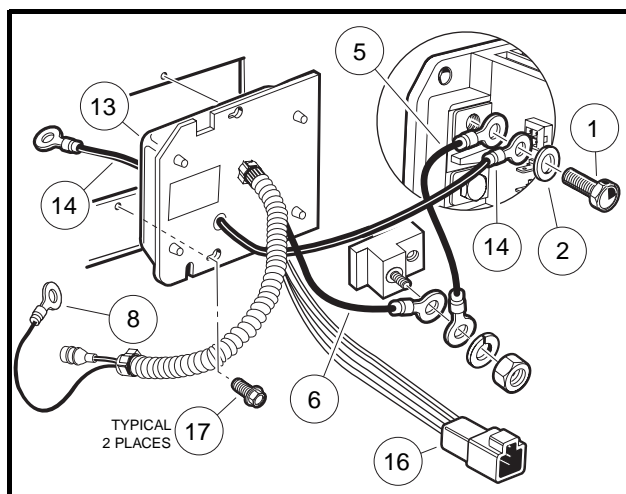
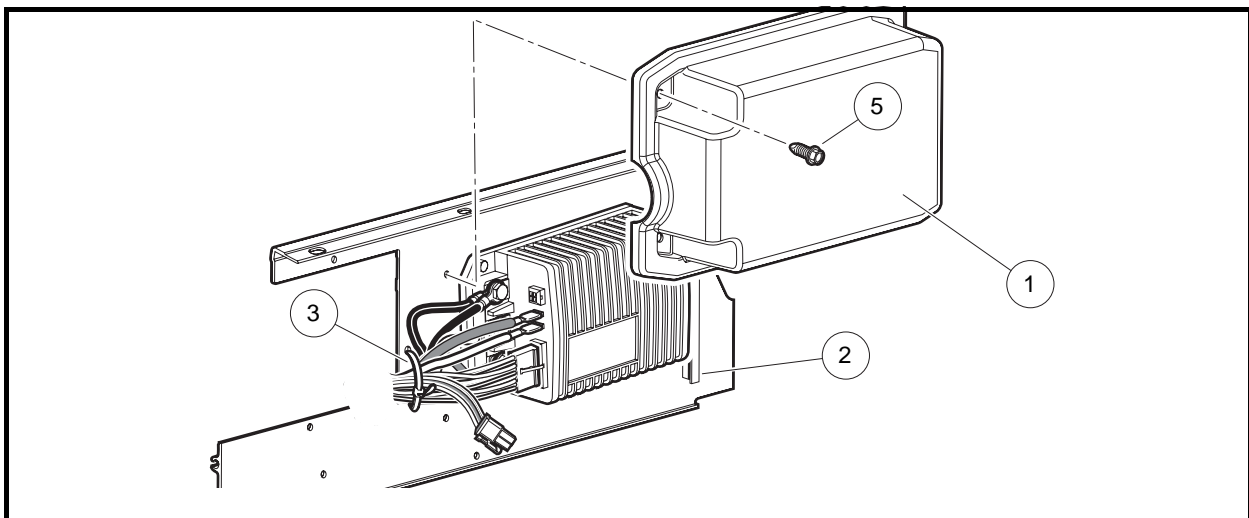

Figure 13-6 Onboard Computer
Figure 13-7 Speed Controller Cover
2. Remove rear body access panel and unplug the six-pin connector (16) at the OBC (**Figure 13-6, Page 13-8**).
3. Remove the two screws (5) from the speed controller cover (1) and remove the cover (**Figure 13-7, Page 13-9**).
4. Remove the wire tie (3) securing the speed controller wires to the mounting plate.
5. Remove black 6-gauge wire (14) and black 10-gauge wire (5) from the speed controller B- terminal (**Figure 13-6, Page 13-8**).
6. Remove the black 10-gauge wire (6) from the accessory mounting terminal.
8. Disconnect the black 10-gauge wire (8) at the charger receptacle.
10. Loosen, but do not remove, the two self-tapping screws (17) holding OBC to component mounting plate.
11. Slide OBC towards outside of vehicle and align heads of self-tapping screws (17) with the two holes in the OBC face plate. Pull OBC towards rear of vehicle and remove from component mounting plate.
3. Install the OBC onto the component mounting plate by aligning the two holes on the OBC face plate with two holes on component mounting plate. Slide OBC towards inside of vehicle and align heads of self-tapping screws (17) with smaller part of two holes in OBC face plate (**Figure 13-6, Page 13-8**). Tighten screws to 60 in-lb (6.7 N-m). **See following NOTE.**
5. Connect the black 10-gauge wire (8) to the charger receptacle (**Figure 13-6, Page 13-8**). Tighten to 23 in-lb (2.6 N-m).
7. Connect the black 10-gauge wire (6) to the accessory mounting terminal. Install the nut on the accessory terminal and tighten to 9 ft-lb (12.2 N-m).
8. Connect the black 6-gauge wire (14) and black 10-gauge wire (5) to the speed controller B- terminal with the washer (2) and bolt (1) and tighten to 9 ft-lb (12.2 N-m) (**Figure 13-6, Page 13-8**).
9. Plug the six-pin connector (16) from the OBC into the vehicle wire harness.
10. Install a wire tie (3) to tightly secure the speed controller wires to the component mounting plate (**Figure 13-7, Page 13-9**).
11. Place the edge of the speed controller cover (1) into the slot (2). Press the controller cover onto the component mounting plate over the speed controller and install the two screws (5) (**Figure 13-7, Page 13-9**). Tighten the screws (5) to 60 in-lb (6.8 N-m). **See following NOTE.**
3. Place the edge of the speed controller cover (1) into the slot (2). Press the controller cover onto the component mounting plate over the speed controller and install the two screws (5) (**Figure 13-7, Page 13-9**). Tighten the screws (5) to 60 in-lb (6.8 N-m). **See following NOTE**.